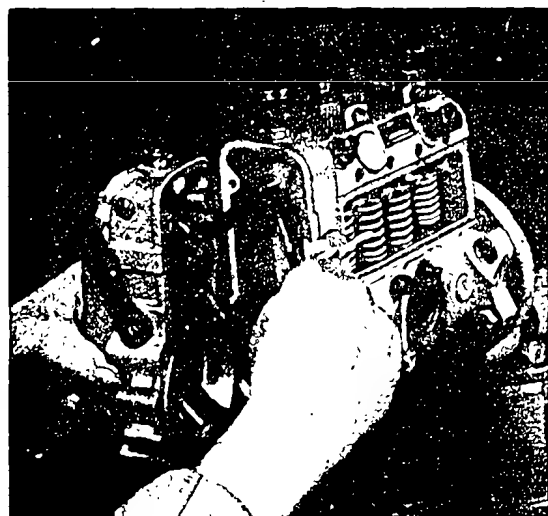

Fig. 7 Unhooking the starting spring
On certain versions this connection is still made by a pin, intermediate washer and split pin. In such instances these components must be removed. Unhook starting spring (86) from eye (21) in governor housing using thin-nosed pliers (Fig. 7).